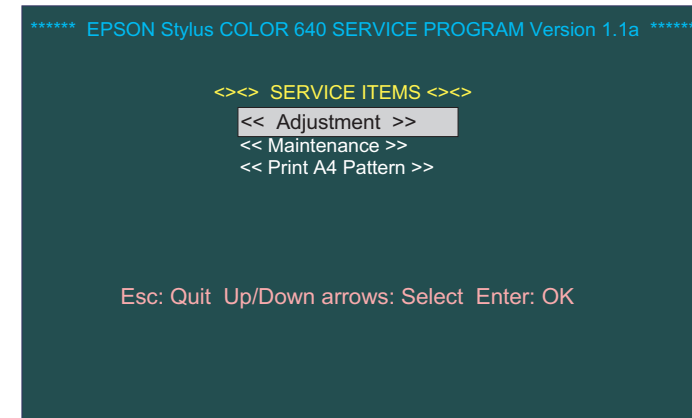

Figure 5-7. Main Menu
After a few seconds, the program automatically returns to the model name confirmation screen (Figure 5-7).
2. In the main menu (Figure 5-7), select **Maintenance**. The following screen appears.